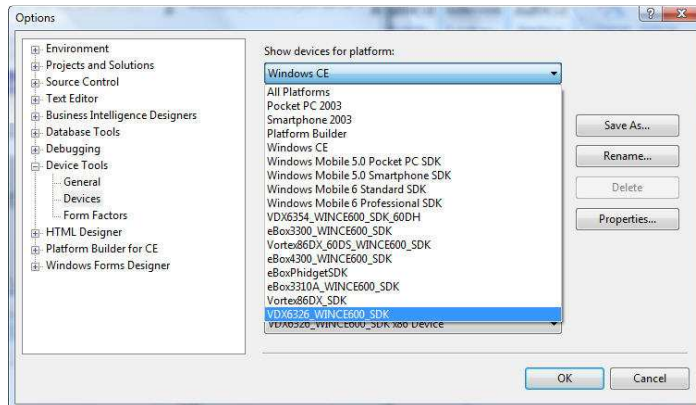

Fig. 40 - VS2005 Tools Options
- On the right, select **Vortex86DX_60DS_WINCE600_SDK** from the list of available platform in the **Show devices for platform** combo text box, as shown in Figure 40.